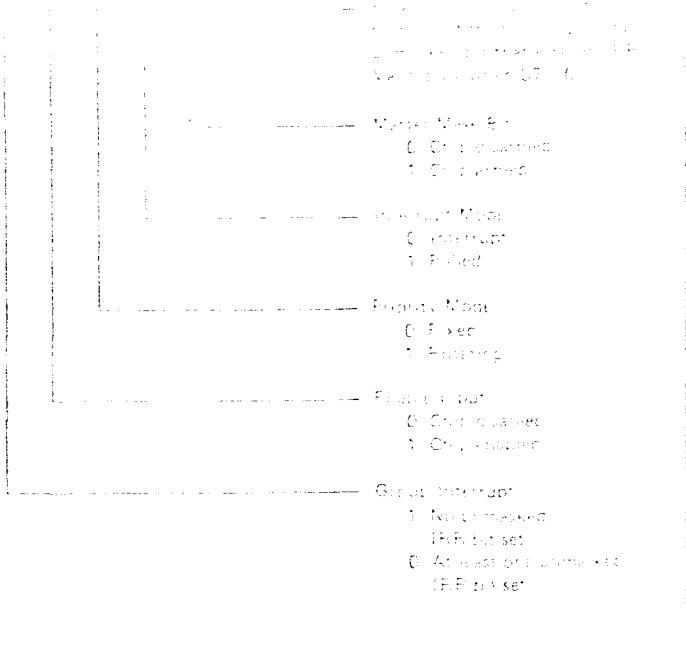

Figure 1. Status Register Bit Assignments.
**Status Register:** The 8-bit Status register contains information concerning the internal state of the chip. It is especially useful when operating in the polled mode in order to identify interrupting devices. Figure 1 shows the status register bit assignments. The polarity of the GINT bit 7 is not affected by the GINT polarity control (Mode bit status register bit assignments). Bits S0-S2 are set synchronously to a status register read operation. It is recommended to read the register twice in order to compare the binary vectors for equality prior to the proceeding with device service in polled mode. The polarity of the GINT bit 7 is not affected by the GINT polarity control (Mode bit 3). The Status register is read by executing a read operation ( $C_S = 0$ ,  $R_S = 0$ ) with the control location selected ( $C_D = 1$ ).